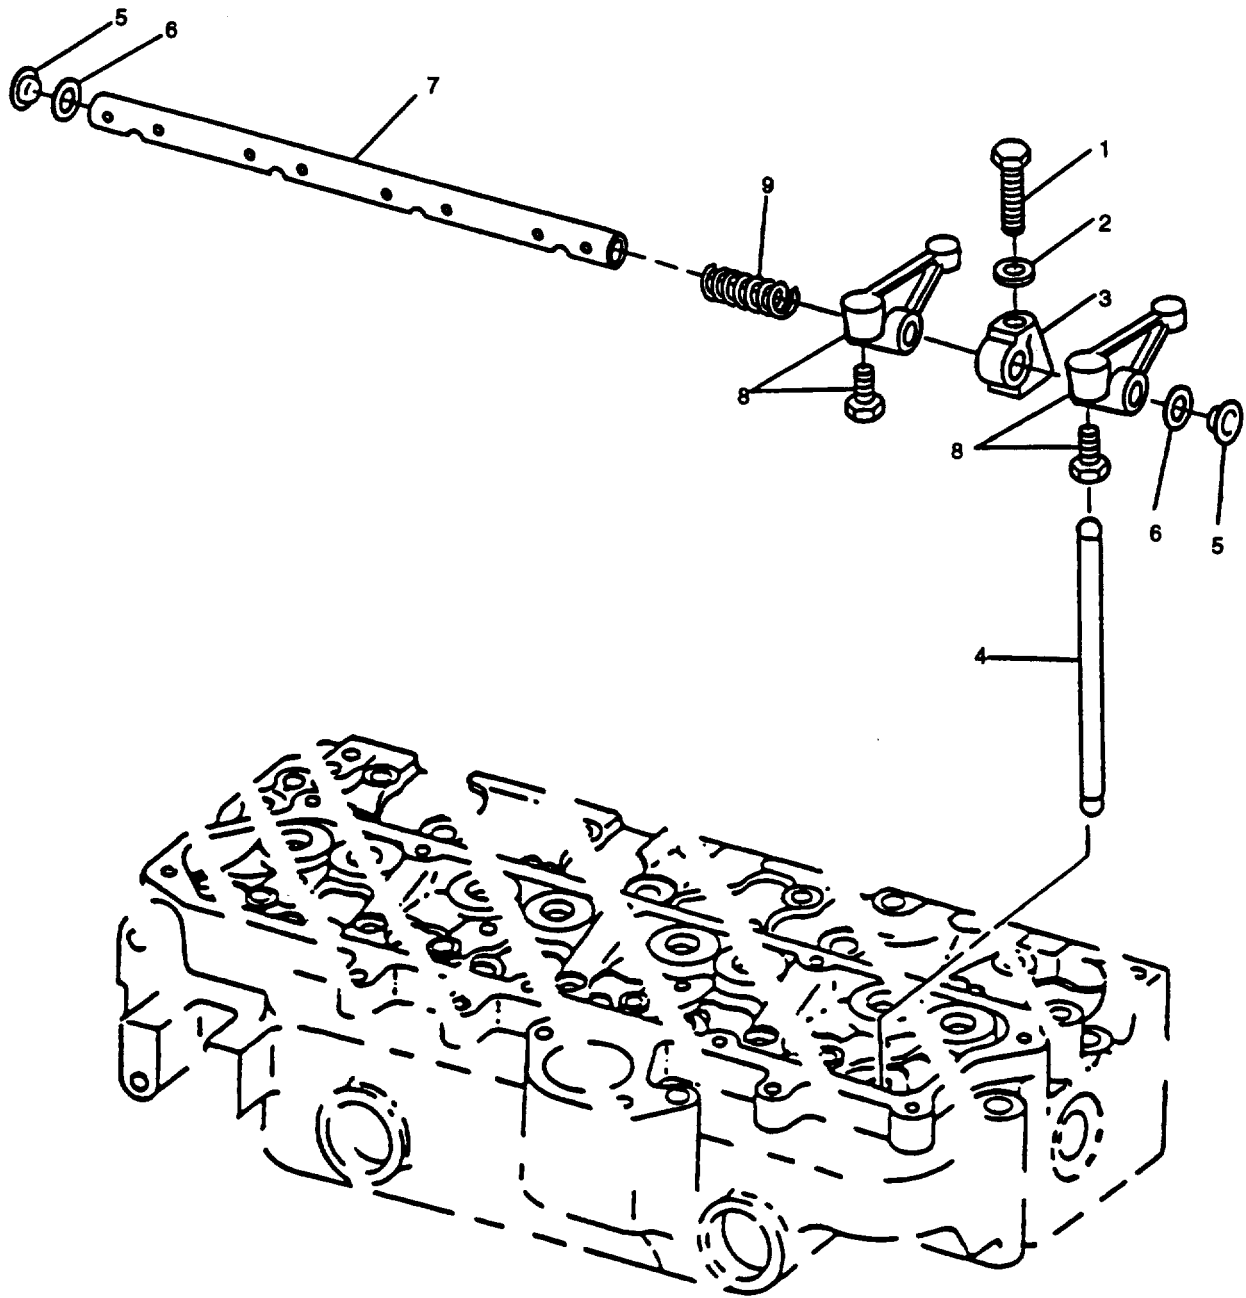

FIGURE 3-98. Rocker Arm Assembly
Capscrews (1, FIGURE 3-98) must be loosened sequentially, a little at a time, to prevent warping of shaft (7).
- b. Remove four capscrews (1) and washers (2) securing four supports (3) to cylinder head; remove rocker arm assembly from head.
- c. Remove eight pushrods (4) and tag them as to their location. This will aid in installation.
- a. Remove plug (5, FIGURE 3-98) from one end of shaft (7). Remove two spring washers (6).
- a. Lubricate OD of shaft (7, FIGURE 3-98), bores of rocker arms (8), and supports (3) with clean engine lubricating oil (MIL-L-2104).
- a. Install pushrods (4, FIGURE 3-98) in same location from which they were removed.